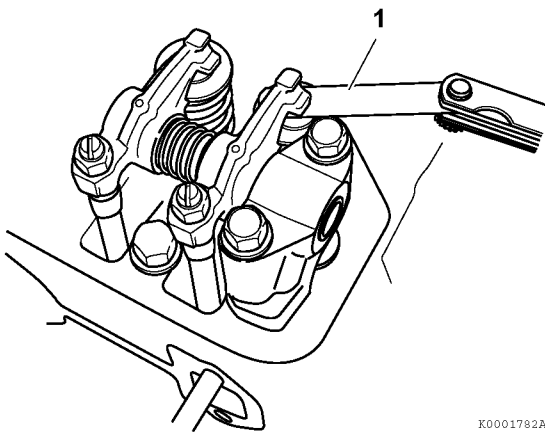

Figure 6-35
3. Insert a feeler gauge (1, **Figure 6-35**) between rocker arm and valve cap and record the measured valve clearance. (Use the data for estimating wear.)